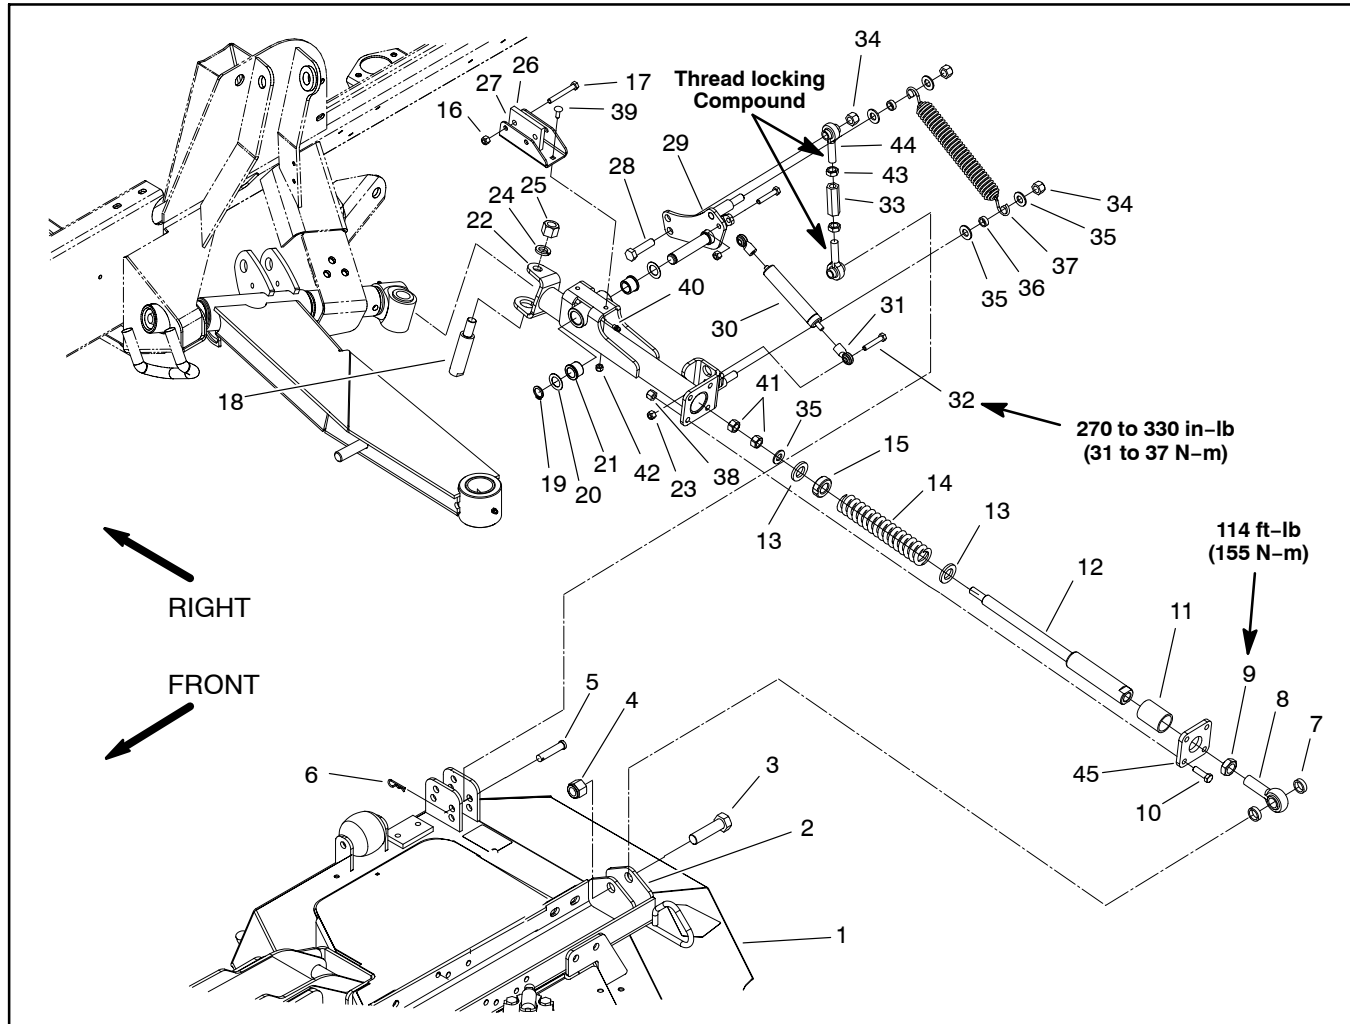

Figure 7
Rear Arm Removal (Fig. 7)
Rear Arm Disassembly (Fig. 7)
1. Disassemble rear arm assembly using Figure 7 as a guide.
Rear Arm Assembly (Fig. 7)
Rear Arm Installation (Fig. 7)